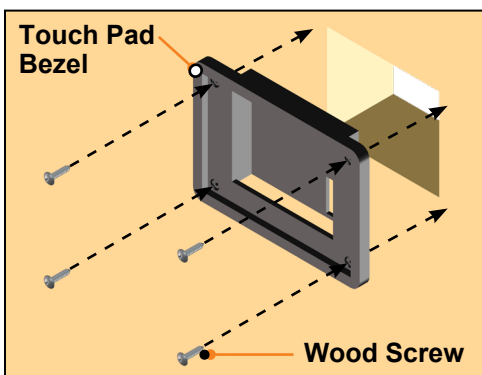

Fig. 24
5. Insert the touch pad bezel into the cutout and attach it with four #8x1" wood screws with sufficient length to thread into the compartment wall (**Fig.24**).